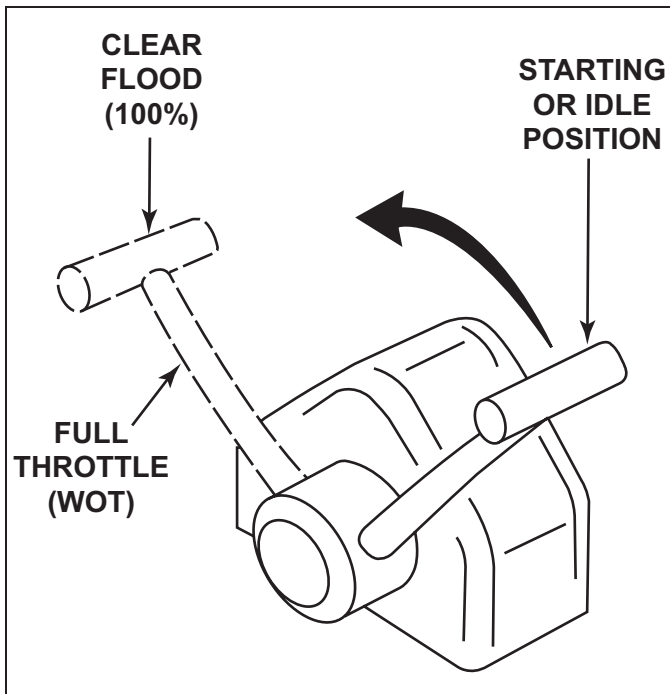

Figure 5-3 Throttle Position Setting
5. Do not pump or open the throttle when starting the engine (Figure 5-3). The ECM will automatically regulate the fuel and control desired idle speed.
7. In the event the engine becomes flooded, move the throttle lever to a 100% open position (Figure 5-3). At this throttle position, the ECM will command the injectors to deliver no fuel during engine cranking.